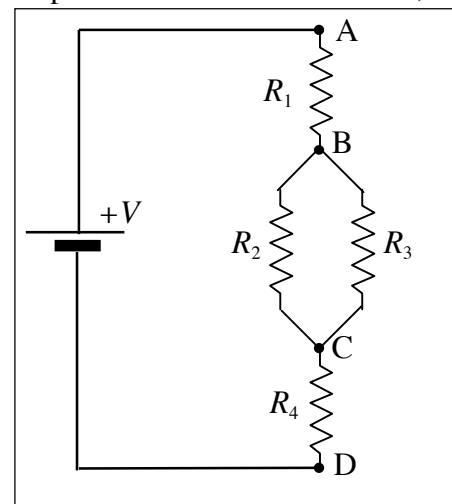

Figure 7 Input resistance
- Connect the circuit of figure 7 using four equal resistors of $10\text{ M}\Omega$ each.